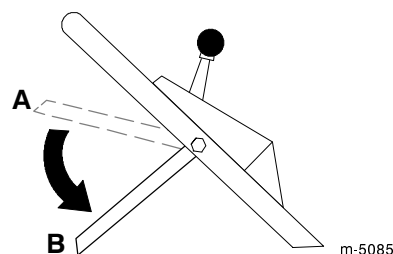

Figure 16
10. Release the control bar; refer to position B in Figure 16. You should hear a “bang.” The blade should stop in three seconds.
2. Move the control bar down to its lowest position (Position B in Fig. 16).